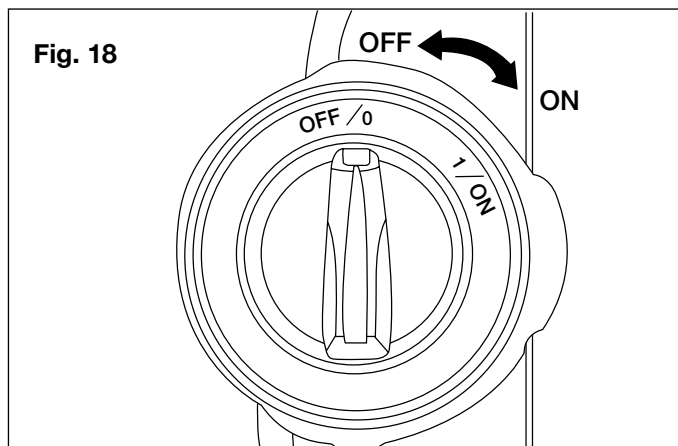

Fig. 18
14. Push the motor switch to the OFF (0) position (Fig. 18).